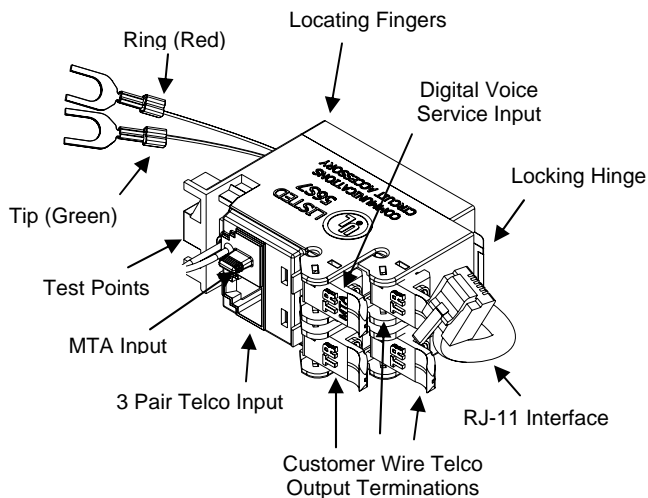

FIGURE 2
3.6 The 79 switch mounts in the customer compartment of a TII 5100 NID. See Figure 2.